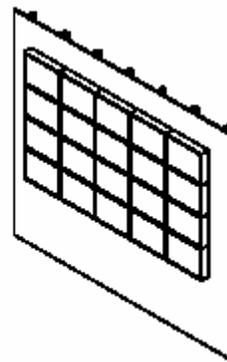

FIGURE 8
18. Repeat FSM mounting steps for rest of small flat panel displays beginning at the bottom right side of the wall tile mount and moving to the left (see Figure 8).